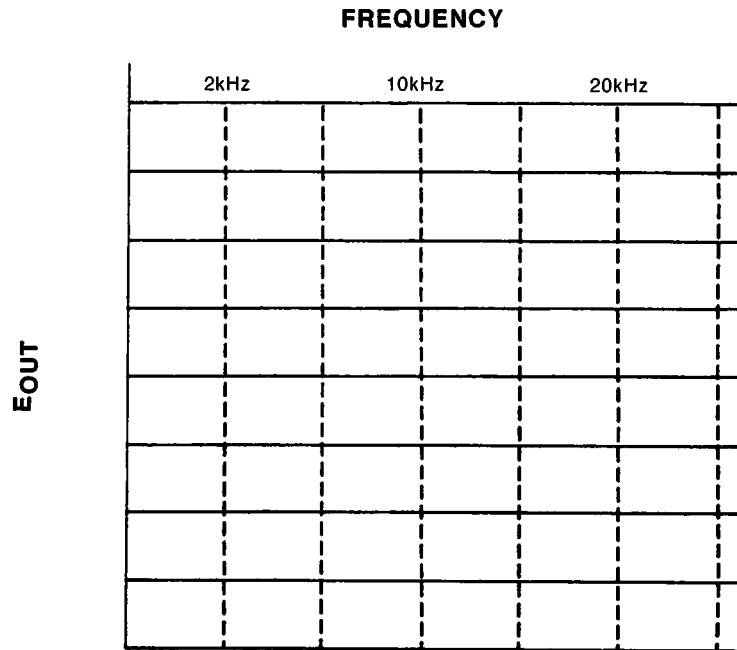

Figure 5-49
23. Connect the voltmeter across R. Use the above procedure to plot the response curve for this circuit on the graph in Figure 5-49 to plot the curve.